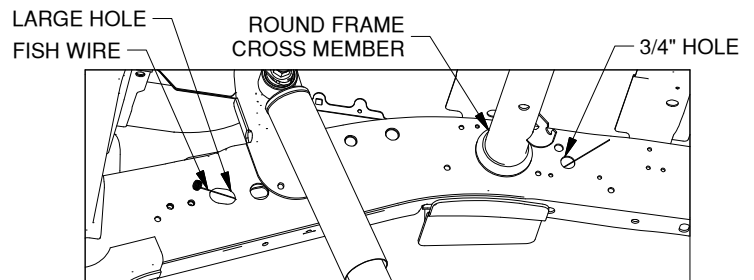

Figure B1: Looking at inside of frame rail.
- 1. Prepare for mounting bracket installation.** Locate the rear cross member mounting brackets, two fish wires, the locking straps, the 1/2" x 1-1/2" carriage bolts, the O-rings, two 1/2" lock washers, and two 1/2" finish nuts. Identify the 3/4" hole on the inside of the frame rails behind the rear axle where the brackets will mount, and the larger hole in the frame ahead of the axle, see Figure B1.